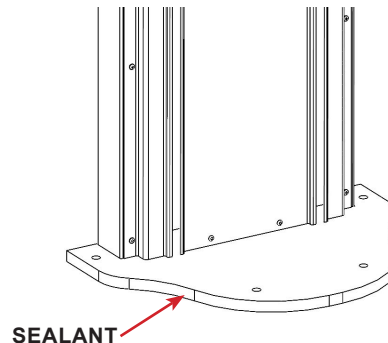

FIGURE 2.5 - Seal Base Plate
STEP 4: Seal around the base plate as required. For a site specific recommendation, consult with the contractor for application requirements. See FIGURE 2.5